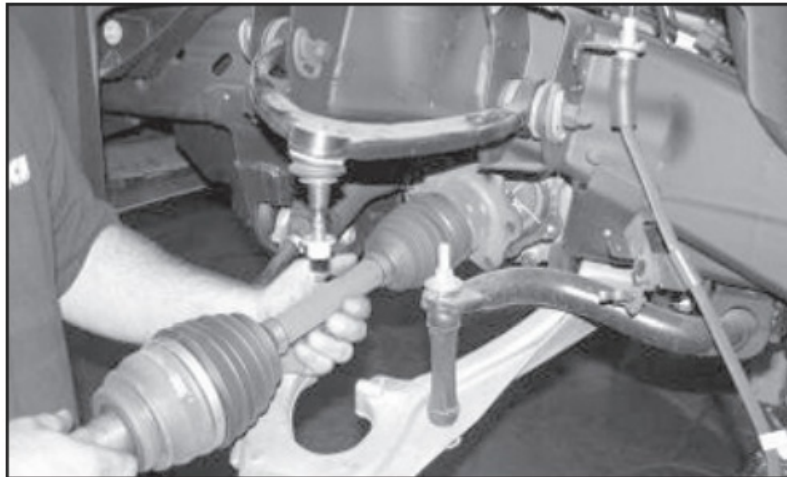

FIGURE 7 - STEP 7
7. Disconnect and remove CV axles from the differential housing and the sway bar end links and save. Discarding ONLY the CV axle hardware. SEE FIGURE 7